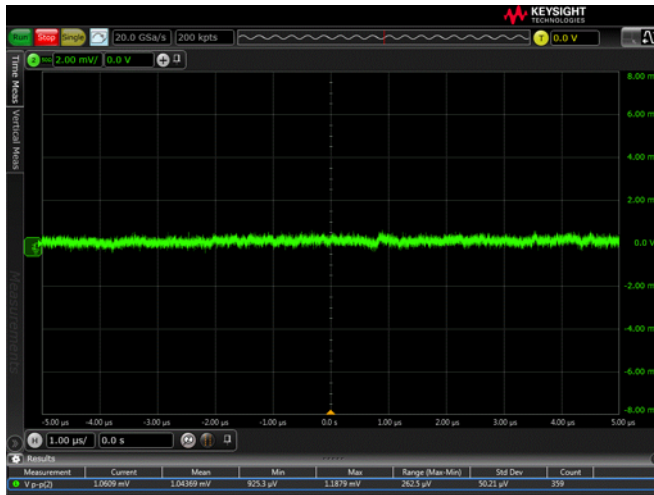
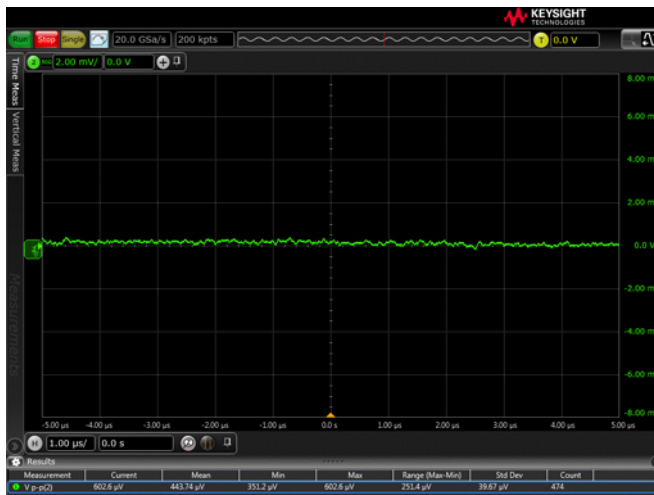

Figure 1 Example of Measured Mean Noise at 2 GHz BW: 1.04369 mV_{p-p}
Figure 2 Example of Measured Mean Noise at 20 MHz BW: 443.74 μV_{p-p}
- Low noise due to a low attenuation ratio (1.1:1) and 50 Ω output. See Figure 1 on page 6 and Figure 2 on page 6.